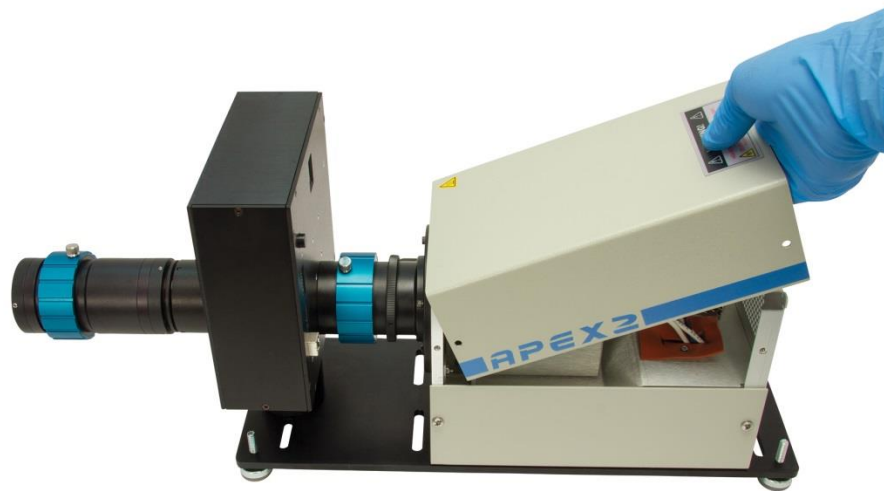

Figure 8: Remove Housing Cover
2. Remove the top cover and set aside as shown in Figure 8.